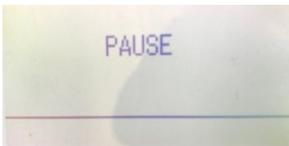

Figure 1. Select Sensor
2. Press the pause key once, then press and hold the pause key until the display asks to select the reflective or transmissive sensor (Threshold Setting Mode). Choose the correct sensor for the loaded media, then press the enter key. Figure 1.